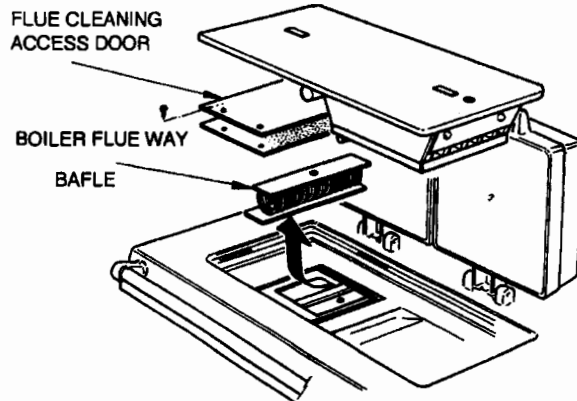

FIG. 7
5. Remove the 4 flue cleaning access door securing bolts and remove door. (Fig. 7)